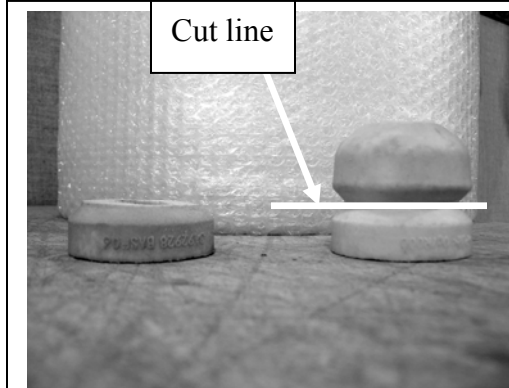

Figure 3
4. Obtain the bump stop from the stock strut, and cut it with a hack saw at the line shown in Figure 3 (bump stop on the right in Figure 3 is before, and the one on the left after, the cut has been made).
6. Cover the new spring with the rubber boot. Place the spring over the new shock - NOTE ORIENTATION IN FIGURE 2 - and cover with the stock cap (Figure 2). Place this assembly in the spring compressor as you did for the stock strut. (Figure 3)